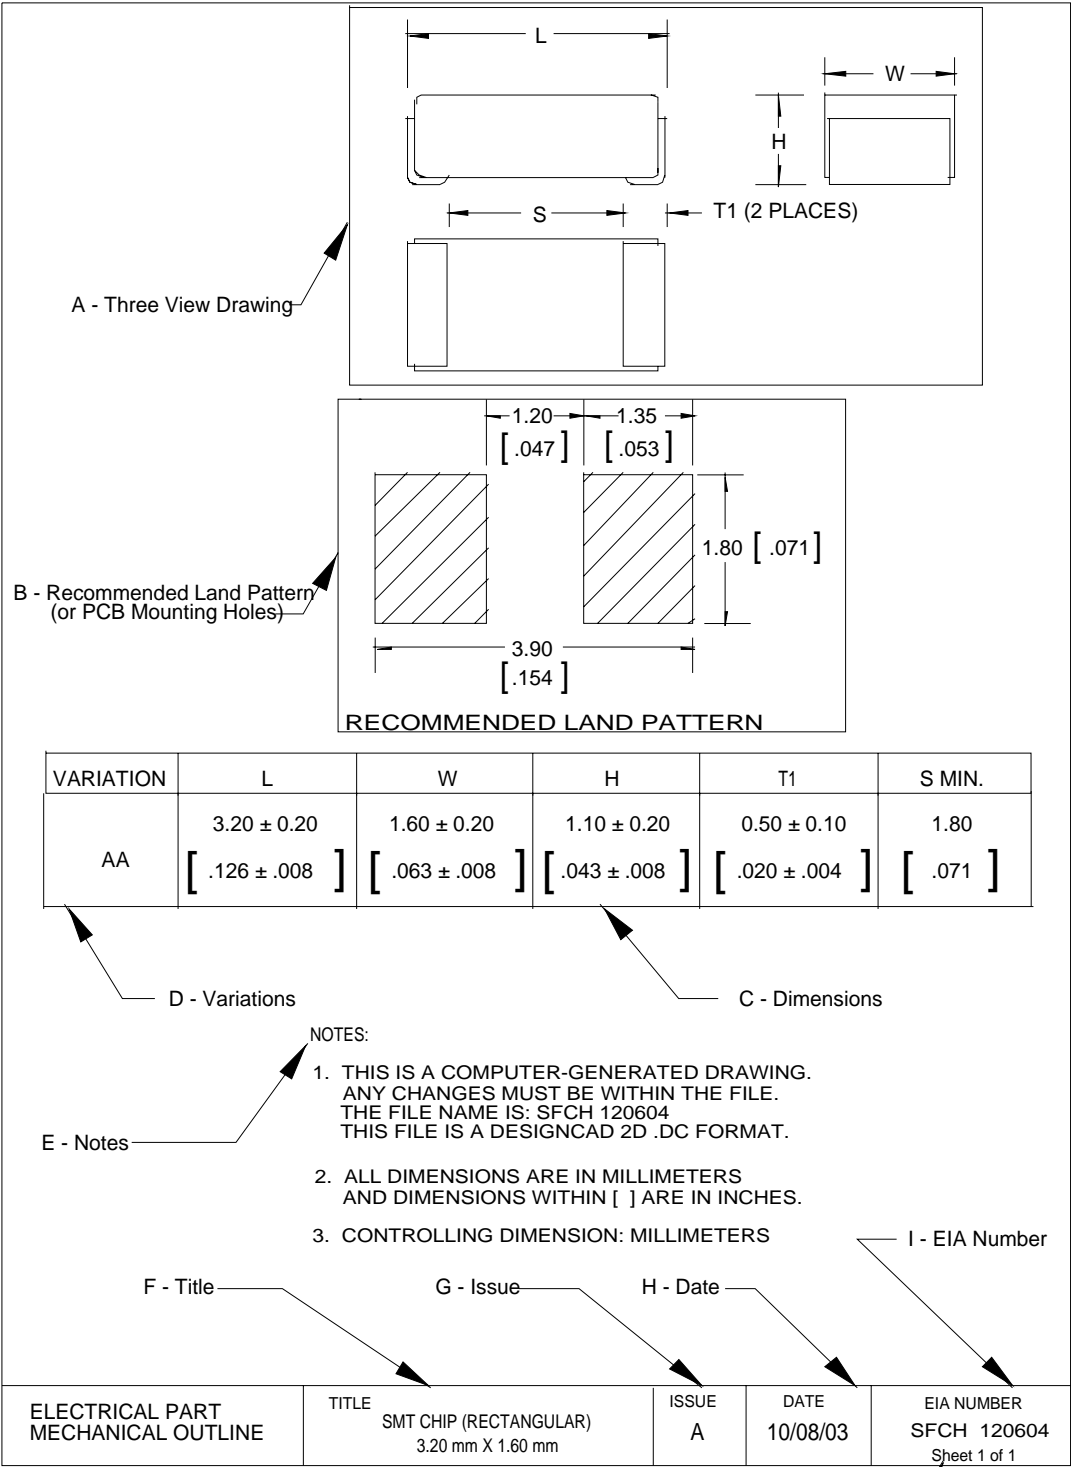

FIGURE 1
Several outline parameters are shown in Figure 1, following. The intent of these outlines is to provide only mechanical information for use by the design engineer without directly supplying the source of the device.
5.1 A three-view line drawing showing important dimensions for the device (Figure 1, A) shall be provided at the top of the Mechanical Outline.
5.2 A recommended land pattern for surface mount devices, or hole layout and dimensions for leaded devices, shall be located immediately below the three-view line drawing. (Figure 1, B) Note that the dimensions provided are only "recommended". The end user may elect to deviate from the recommendations, provided they have adequate spacing for their application. Components not